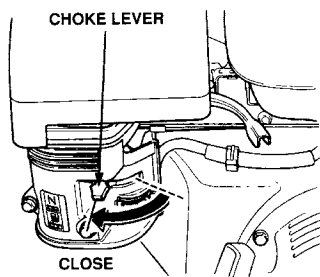

Figure 9. Engine Choke Lever (Closed)
3. Place the choke lever (Figure 9) in the CLOSED position if starting a cold engine.